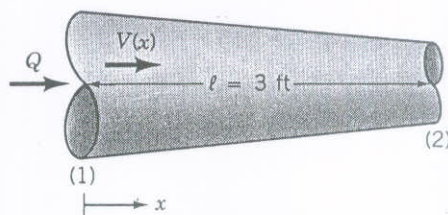

FIGURE P3.3
3.3 Water flows steadily through the variable area horizontal pipe shown in Fig. P3.3. The velocity is given by  $\mathbf{V} = 10(1+x)\mathbf{i}$  ft/s, where  $x$  is in feet. Viscous effects are neglected. (a) Determine the pressure gradient,  $\partial p/\partial x$ , (as a function of  $x$ ) needed to produce this flow. (b) If the pressure at section (1) is 50 psi, determine the pressure at (2) by: (i) integration of the pressure gradient obtained in (a); (ii) application of the Bernoulli equation.